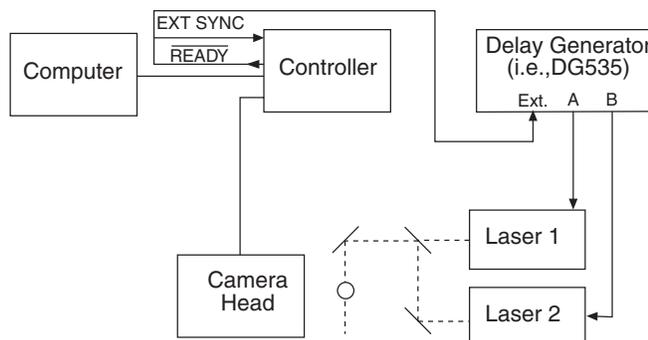

Figure 42. Another Hardware Setup for an IEC Measurement
**Example 2:** As shown in Figure 42, the **READY** signal from the controller can be used to trigger the controller by connecting it back into the **EXT SYNC** connector. At the same time, it can be used to trigger a DG-535.